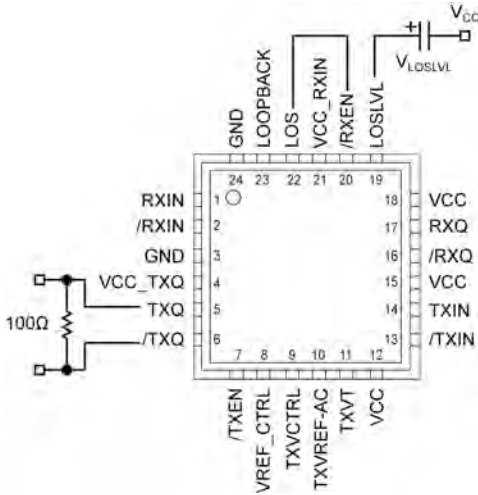

Figure 2a. Voltage Source Implementation
The SY58620L features a chatter-free Loss-of-Signal (LOS) TTL compatible output with an internal 4.75kΩ pull-up resistor. LOS circuitry monitors the input receiver signal and asserts a signal when the input signal falls below the threshold set by the programmable LOS level set pin (LOSLVL). When the amplitude of the receiver input signal falls below the threshold, LOS is asserted HIGH with a response time of ~0.2μs. LOS can be fed into /RXEN to maintain output stability by disabling the output during a Loss-of-Signal condition. Figure 2a and 2b shows the LOS connection to /RXEN. When /RXEN is HIGH, the output signal RXQ is held LOW and /RXQ is held HIGH. Typically, 2dB of LOS hysteresis is adequate to prevent the receiver output from chattering. LOS operation is optimized for data rates ≥622Mbps with an input receiver amplitude of at least 10mV (20mV_{PP}). Due to the long time constant in slower data rates below 622Mbps, the SY58620L LOS function does not guarantee chatter-free operation for low amplitude signals.
between VCC and V_{REF} (an internal voltage source set at V_{CC}-1.3V), since there is a 2.8kΩ internal resistor connected between LOSLVL and V_{REF}. The input voltage range of LOSLVL ranges from V_{CC} to V_{REF}. See the “Functional Block Diagram” section and Figures 2a and 2b, to see how R_{LOSLVL} sets up a voltage divider between VCC and V_{REF}. Refer to the “LOS Output DC Electrical Characteristics” table and “Typical Operating Characteristics” section to see how different R_{LOSLVL} values affect LOS sensitivity.
- Connecting the input /RXEN to the LOS output as shown in Figures 2a and 2b, maintains receiver output stability under a Loss-of-Signal condition